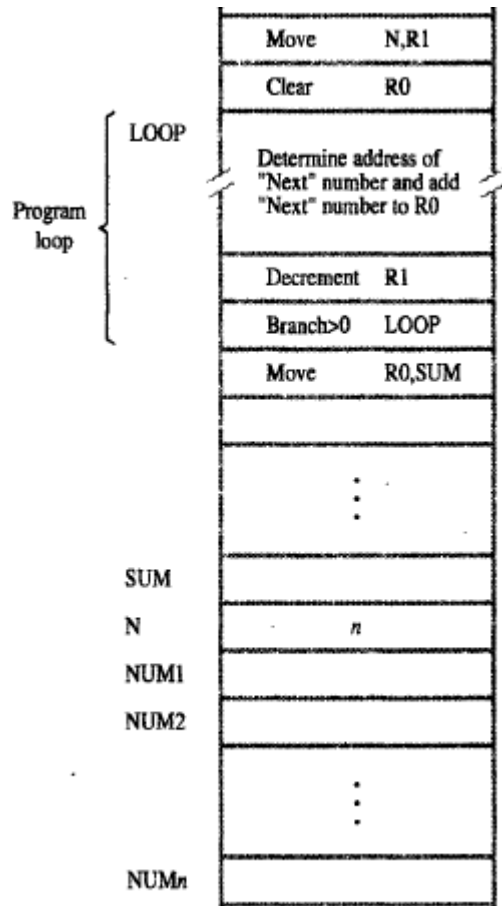

Figure 2.10 Using a loop to add n numbers.
- Consider the task of adding a list of „ n ‘ numbers (Figure 2.10).